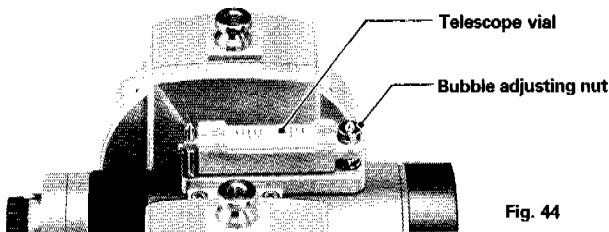

Fig. 44
3. Return the bubble of the telescope vial to the center by adjusting the bubble adjusting nut (Fig. 44) with the adjusting pin.